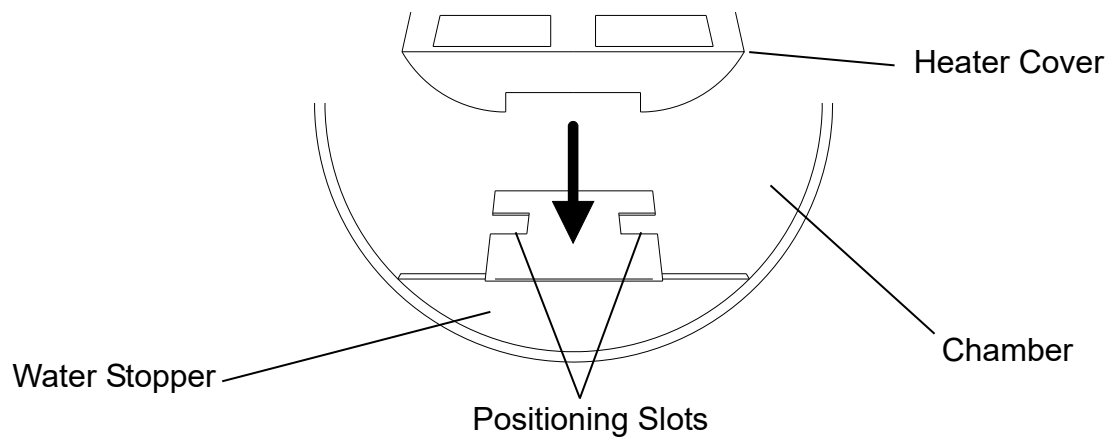

Figure 4
- B. Install the heater cover to the chamber as Figure 4. (standard accessory)